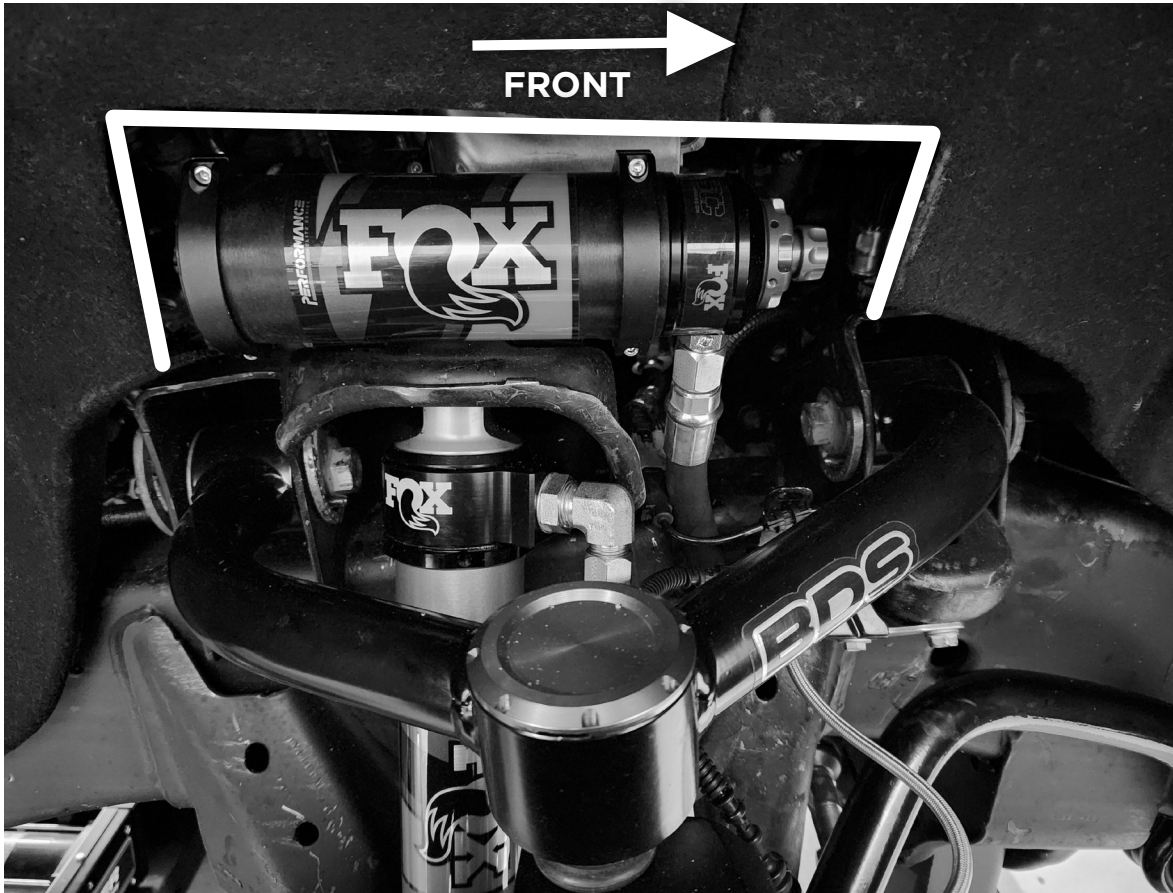

Figure 6: Passenger side shown
9. Now that you have your trim area drawn, trim out the rectangle as shown in Figure 6. **DISREGARD THE FOX SHOCK IN FIGURE 6. YOU WILL BE INSTALLING IT LATER.**